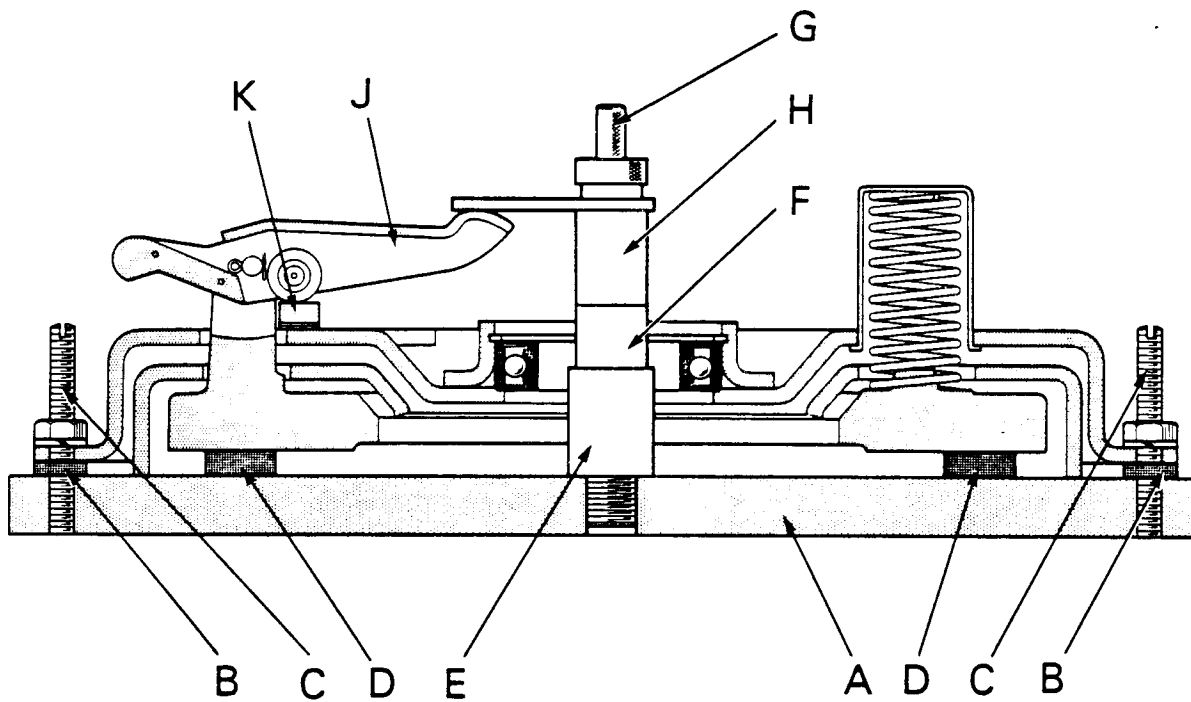

Figure 13. CHECKING RELEASE LEVER HEIGHT — BORG AND BECK
- Remove actuator and fit centre pillar in its place. Place the appropriate spacer, Code 8 on a 10/10 in. clutch and Code 16 on a 11/10 in. clutch, on the centre pillar, with the recess downwards, and then fit the single checking finger. (Fig. 13.)